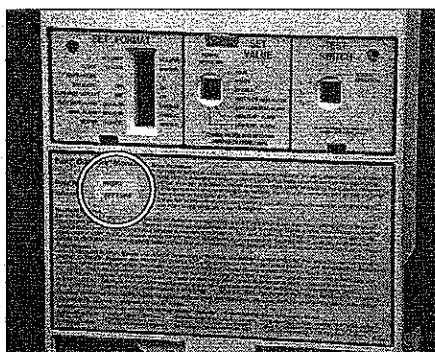

Figure 61
Note: These numbers must fit into the small window on the information label (see circled area in Figure 61).
3. Carefully place the information label on to the rear enclosure as illustrated in Figure 61.
4. Remove the adhesive backing from the rear control panel label. Carefully place the label onto the rear enclosure as illustrated in Figure 61.